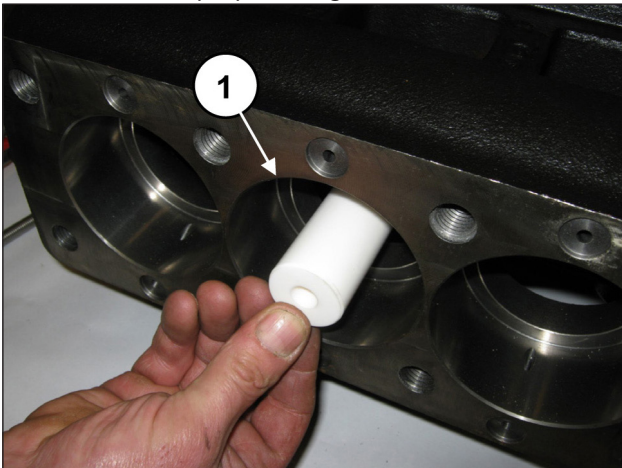
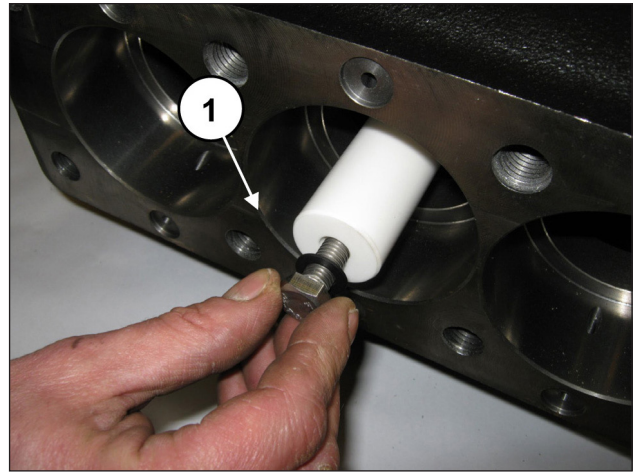

Fig. 188
Fig. 189
Install the pistons on their respective guides (pos. ①, Fig. 188) and fasten them as per pos. ①, Fig. 189.